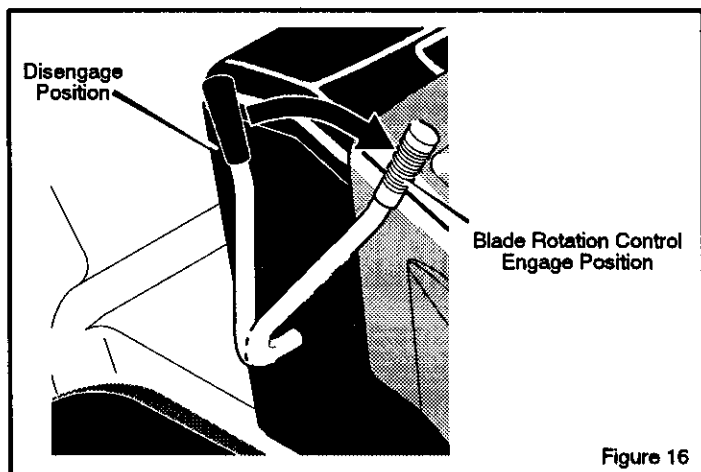

Figure 16
2. Move the blade rotation control to the DISENGAGE position (Figure 16).